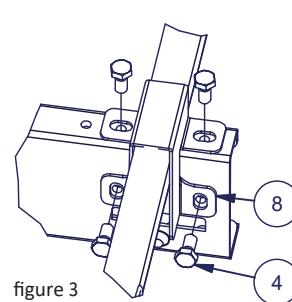
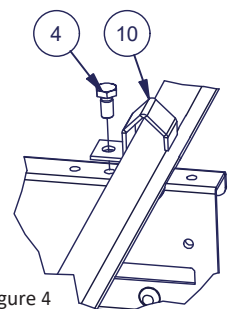

figure 3
figure 4
Attach Pisko Safegrip ladder (9) to the MultiFast fasteners and secure them in place with Pisko MultiFast stile brackets (8) by using 4 pcs of M8x16 screws per bracket (figure 3). The top and bottom MultiFast fasteners of the ladder should be fixed with stile brackets (4). Brackets in between can be fixed to the ladder with Pisko MultiFast stile bracket, easyfix (10) (figure 4).